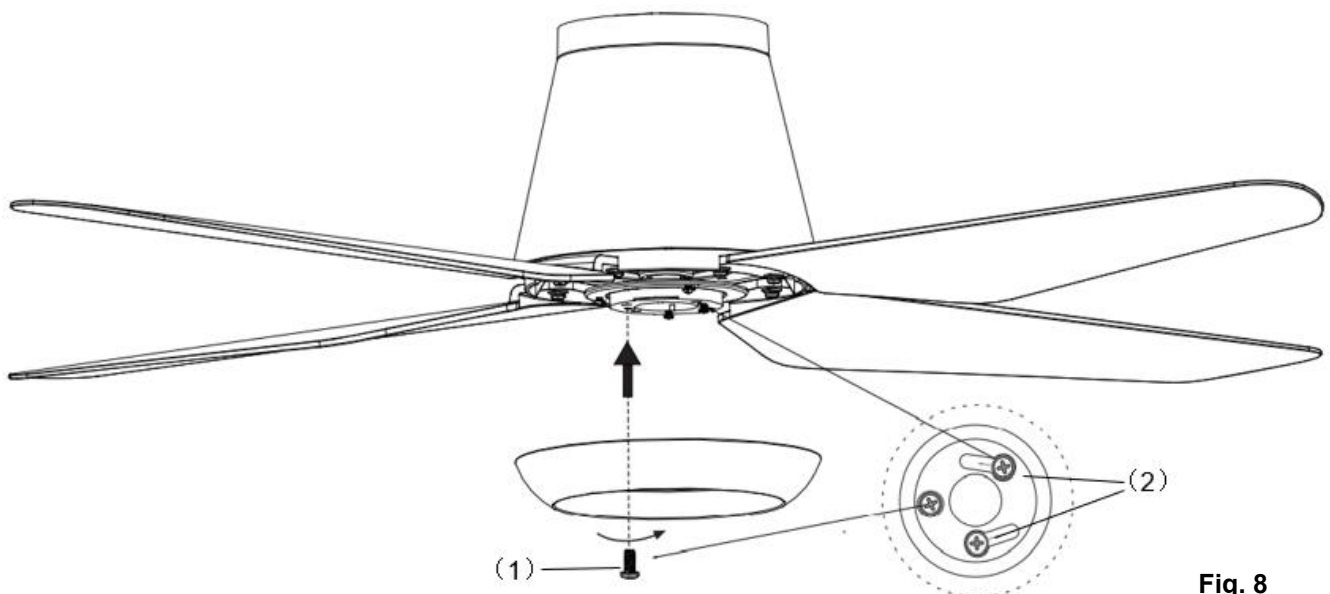

Fig. 8
INSTALLATION OF LIGHT KIT (Fig. 8)
1. Loosen the screw (1) from the fan bracket. (Fig. 8)
2. Align the two slot screws with the keyhole slots (2) of the light kit plate. (Fig. 8)
3. Turn the light kit plate counterclockwise until the slot screws are firmly at the end of the slots (2).
4. Secure the screw (1) to the lamp shade bracket. Tighten all three screws. Do not over-tighten.